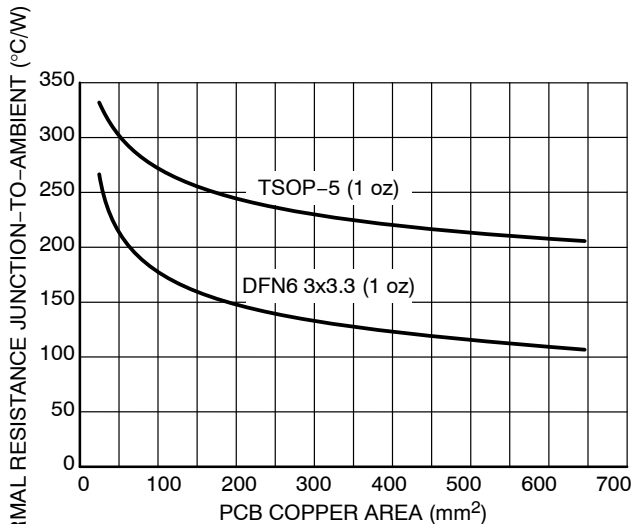

Figure 33. RthJA vs. PCB Copper Area
600 mW when the ambient temperature (TA) is 25°C, and PCB area is 150mm2 and larger, see Figure 33.